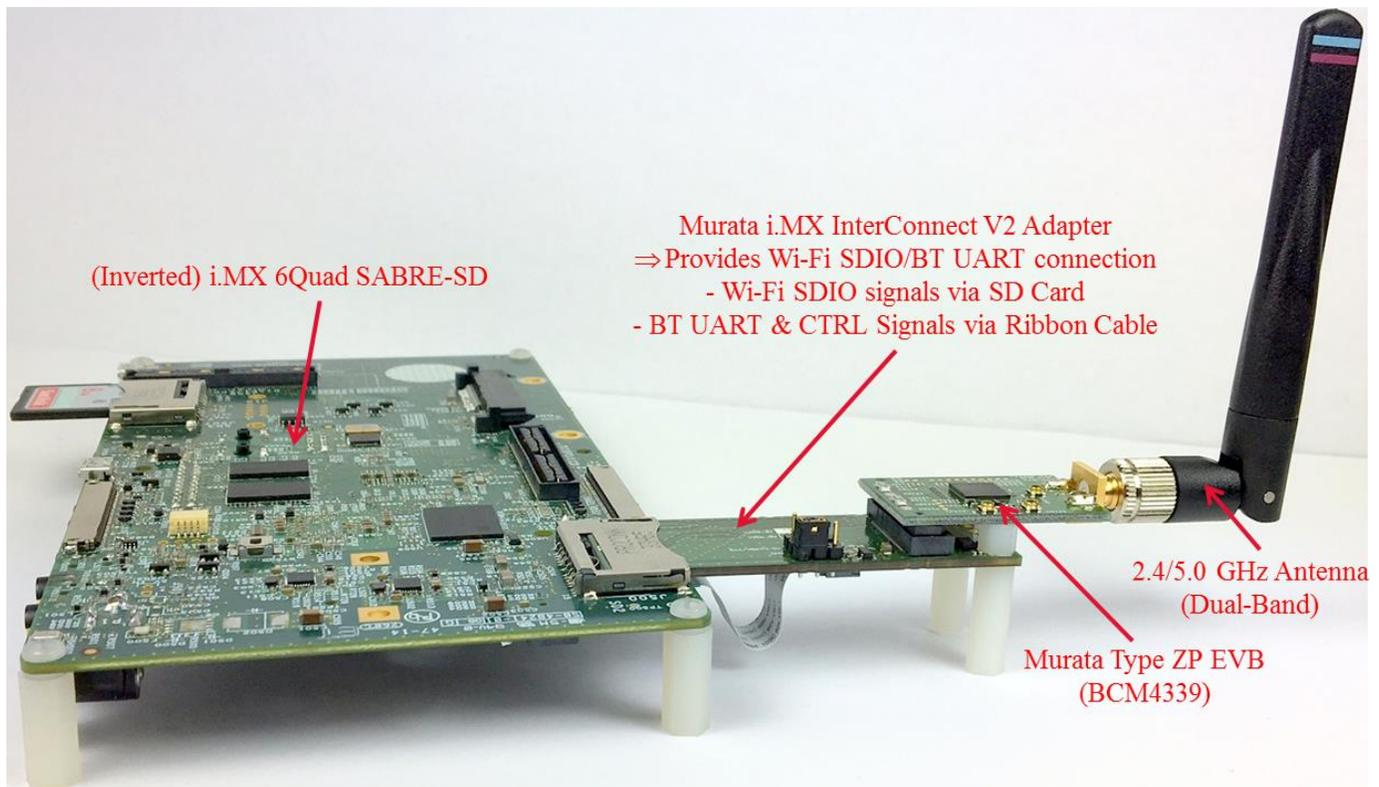

Figure 5: i.MX 6Quad SABRE-SD (Inverted) with V2 Adapter and Type ZP EVB
- [3] After connecting ribbon cable to both adapter and i.MX6Q/DL, insert Adapter board into SD2 slot. Note the orientation as shown in **Figure 5**.